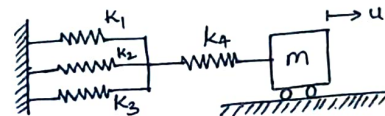

Figure 1
- Q.1.** The multiple springs-mass system as shown in Figure 1 is subjected to free vibrations. The mass, $m = 24 \text{ kg}$, the stiffnesses of the springs are: $k_1 = 1000 \text{ N/m}$, $k_2 = 2000 \text{ N/m}$, $k_3 = 3000 \text{ N/m}$ and $k_4 = 4000 \text{ N/m}$. The initial displacement and initial velocity given to the mass are 0.05 m and 0.5 m/s respectively. If the displacement response is $u(t) = A \sin(\omega_n t + \phi)$, then neglecting damping, find the following: